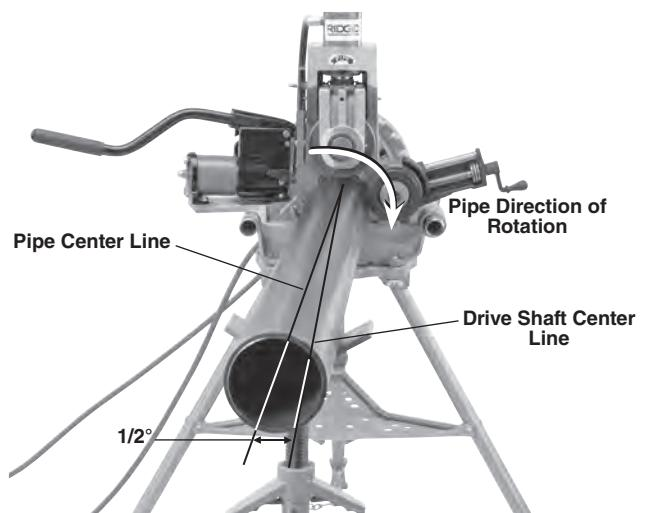

Figure 15 – Offsetting the Pipe 1/2° Toward Operator, (Exaggerated)
- Move the power drive/threading machine REV/OFF/FOR switch to the REV position. Press and release the foot switch. Drive roll should rotate clockwise (see *Figure 15*) matching the pipe rotation decal on the groover. If the groover does not rotate in the correct direction, or the foot switch does not control the machine operation, do not use the machine until it has been repaired.
7. **Preferred Operation – Switch in REV Setting:** Slightly offset the pipe and pipe stands approximately 1/2 degree (about 1" over at 10 feet from the roll groover) towards the operator. Proper alignment of the pipe and roll groover helps to ensure proper tracking of the pipe while grooving (see *Figure 15*). This is proper offset for grooving with the machine in the REV switch setting, and works with the stabilizer.
- Slightly increase the offset of the pipe (increase from 1/2 degree to 1 degree). See *Figure 15*.